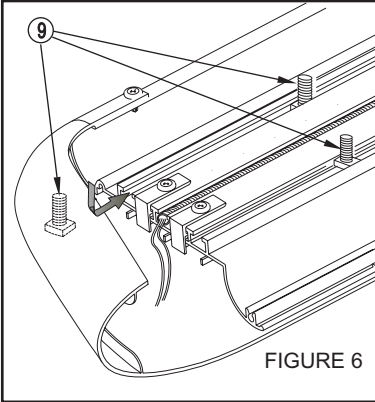
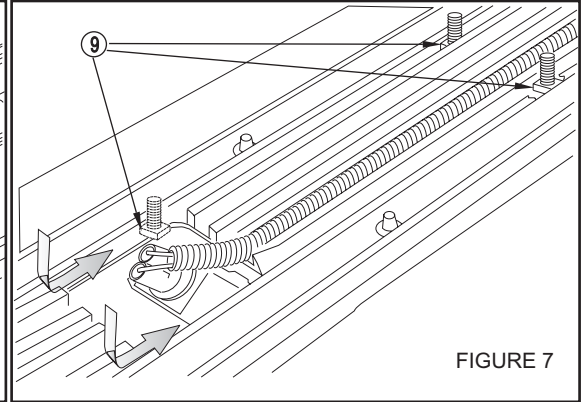

FIGURE 6
FIGURE 7
- STEP 5.** Insert square head bolts as shown (3 per slot, 6 per board). **SEE FIGURES 6 AND 7. NOTE:** For lighted boards, run wiring harness prior to attaching board to brackets (refer to Step 8). **SEE FIGURES 6,7, AND 10.** Run longer wire harness on passenger side.
HINT: Molded Step Boards: For longevity, check rubber seals before installation. Rubber grommets around red and blue wires going into rear sockets, should be inserted and recessed about 1/4". **NOTE:** Remove bulbs and apply white grease into sockets and replace bulbs. Apply RTV Silicone where lights go into socket. Install lights and run wire loom as shown. **SEE FIGURE 7.** For Sure Grip Running Boards, run wire loom down center as shown. **SEE FIGURE 6.**